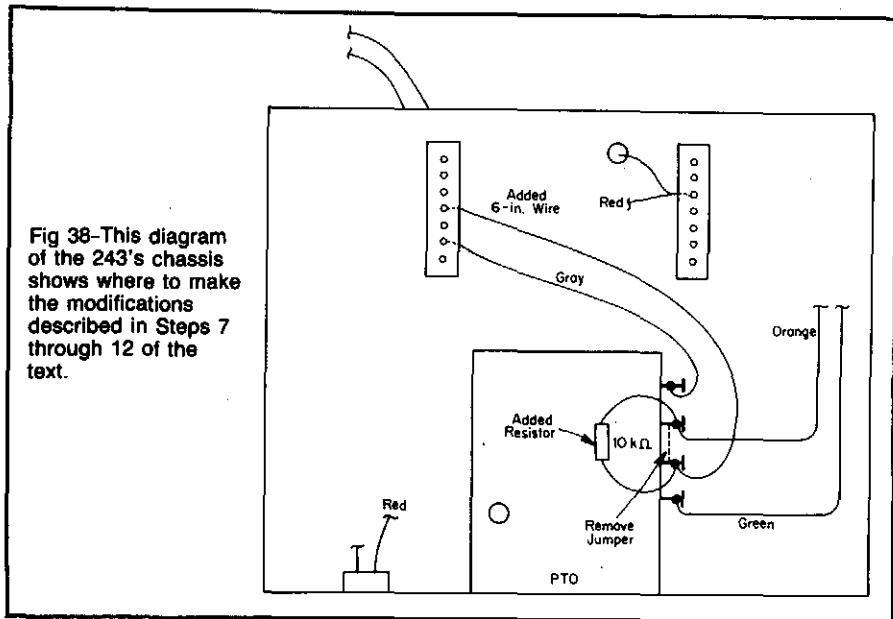

Fig 38—This diagram of the 243's chassis shows where to make the modifications described in Steps 7 through 12 of the text.
7. See Fig 38. Locate the row of pins on the right side of the PTO enclosure, and the jumper that connects the two center pins. The jumper is an orange wire on the rear of the two pins.